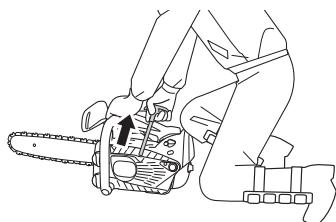

Fig. 13
5. Pull recoil starter briskly, taking care to keep the handle in your grasp and not allowing it to snap back. (Fig. 13)
7. Pull recoil starter briskly again in the aforementioned manner. (Fig. 13)